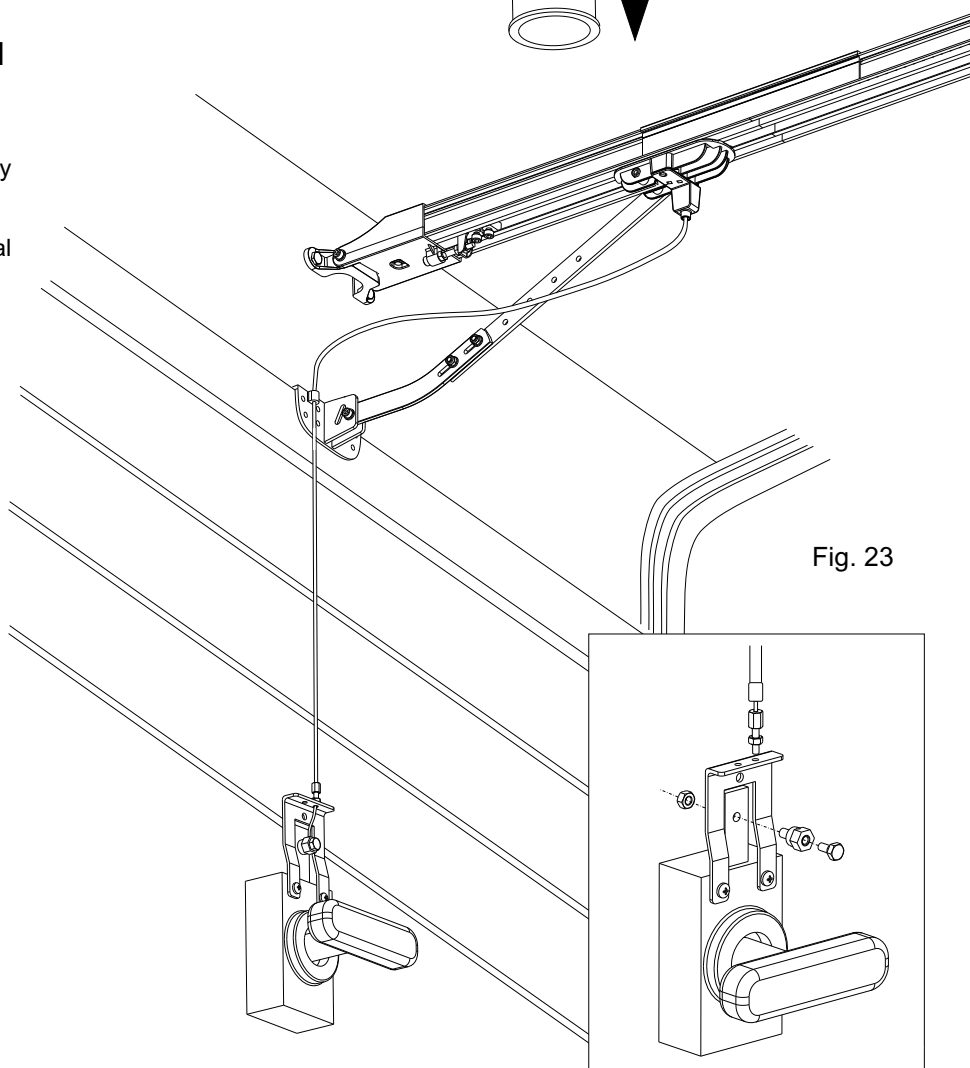

Fig. 23
- Turn the knob and open the door manually (Fig. 23)